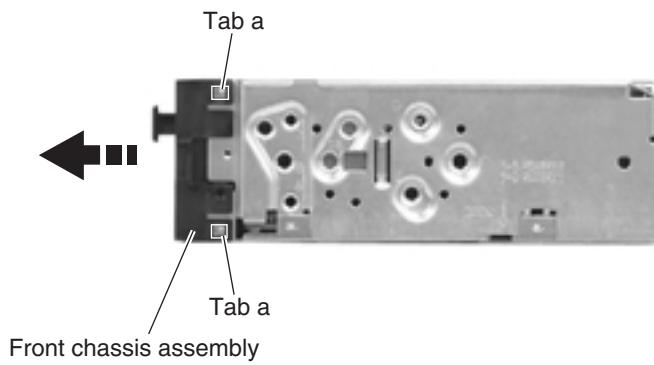

Fig.2
■ Removing the front chassis assembly (See Fig.2, 3)